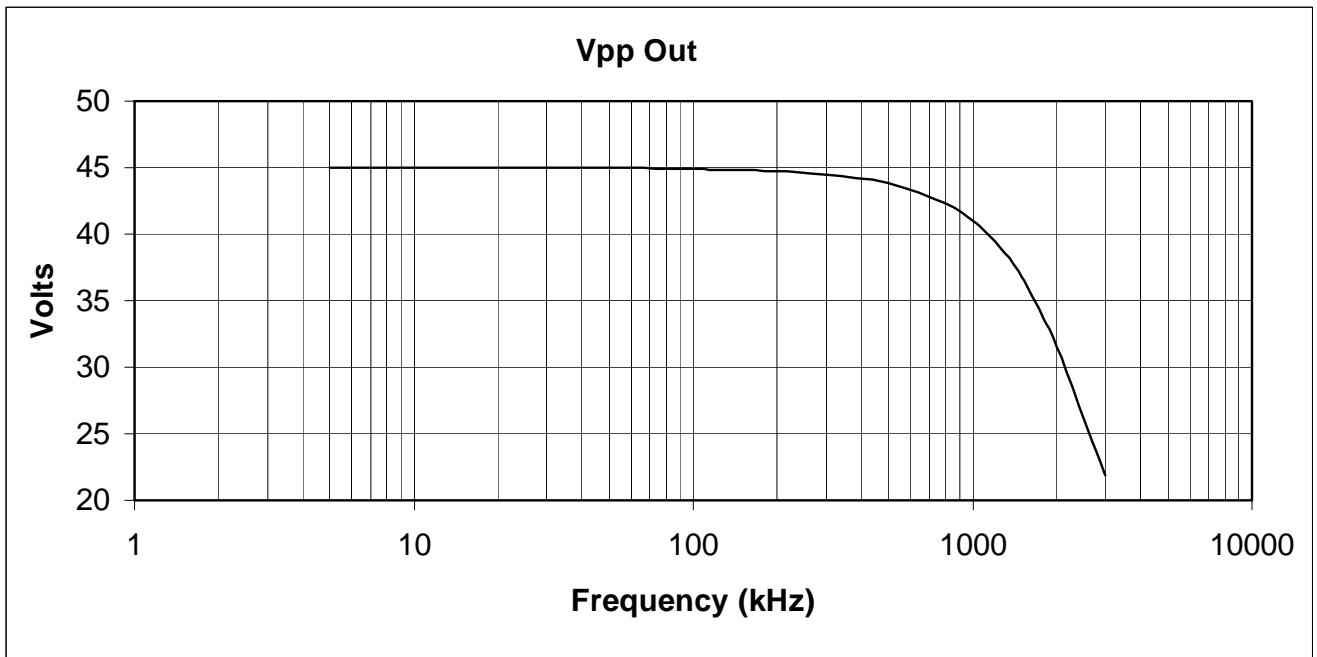

Figure 2: Small Signal Frequency Response (Typical)
POWER AMPLIFIER OFFSET/GAIN CALIBRATION Cont'd:**Figure 2 – Power Amplifier Gain/Offset Setup**
- 9 Apply a 4 Vpp (1.414 Vrms), 10 kHz, Sine wave to Channel 1 INPUT (with a BNC T-connector). Measure and **[RECORD]** the AC voltage with the DVM connected to the other end of the T-connector. Refer to Figure 2.